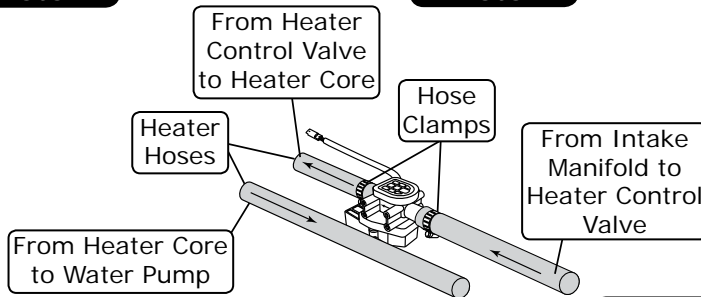

Figure 2
1. Install the heater control valve support bracket onto the heater control valve using (4) #8 x 1/2" screws (See Photos 1 & 2, below)
5. Route the other end of the heater control valve heater hose to the intake coolant port (See Figure 2, below). Secure it with a hose clamp.
6. Route a length of heater hose to the lower heater hardline on the evaporator unit. Route the other end to the water pump coolant port (See Figure 2, below). Secure both ends with hose clamps (not supplied).